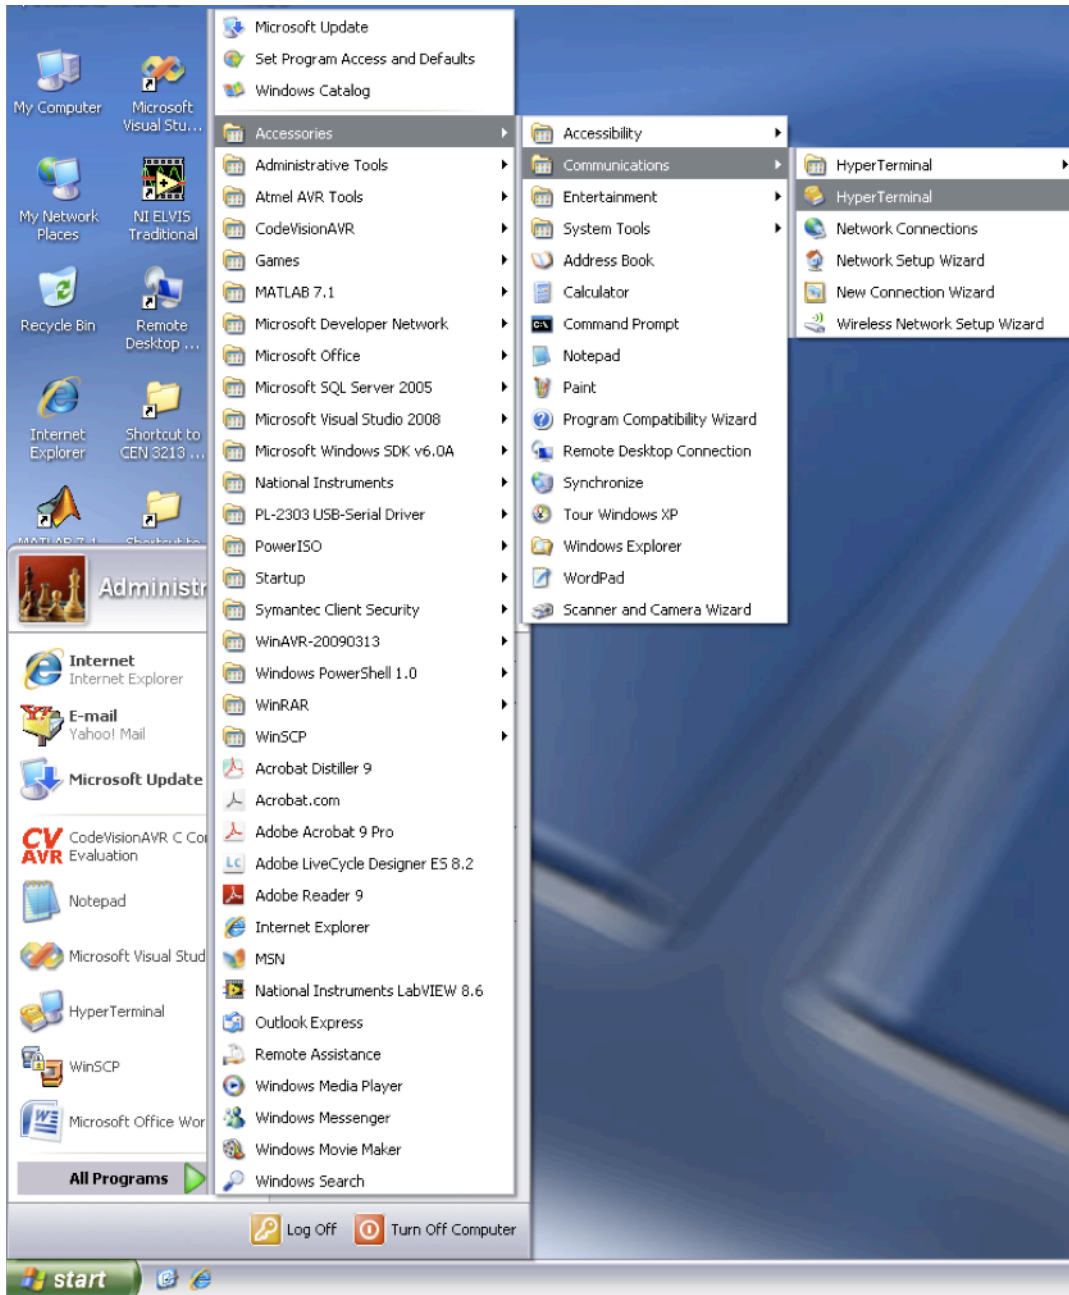

Figure 4.28 Screenshot of how to start a HyperTerminal session.
- 4.3.1** Open the HyperTerminal program by going to “Start”, “All Programs”, “Accessories”, “Communications”, and selecting “HyperTerminal” as seen in Figure 4.28. If this is the first time HyperTerminal is used, enter an area code and follow the on-screen instructions given by the HyperTerminal program. Click “OK” to proceed.